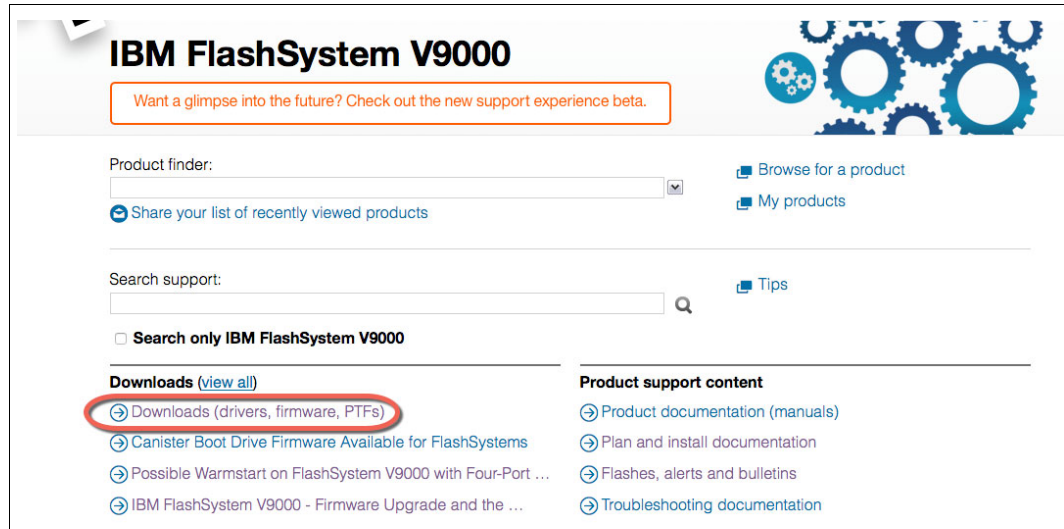

Figure 13-43 Download updates for IBM FlashSystem V9000
- The product page provides capabilities to download product updates and review other product documentation. In Figure 13-43 new product firmware is displayed by selecting **Downloads (drivers, firmware, PTFs)**.